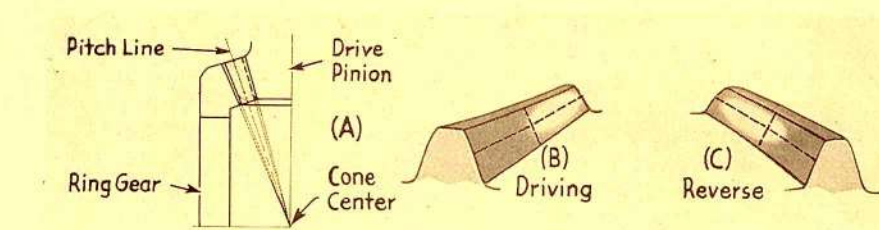

Fig. 2 Correct Ring Gear Tooth Contact
The profile contact may appear at any position throughout the length of the tooth. For proper meshing of gears the greater part of the profile contact on the ring gear should be about the middle of the tooth at the pitch line slightly below the outer edge. Referring to Figure 2 it will be noted that the contact surface for the desired condition extends only slightly below the pitch line and almost to the edge of the tooth. If the contact surface favors a lower position on the flank of the ring gear tooth as shown in Figure 2 (B) the profile contact is too low. If, on the other hand, the contact surface is totally above the pitch line and also shows a decided contact on the top point or face of the tooth, the profile contact is too high.
To correct a low profile or flank contact, move the drive pinion away from the ring gear by increasing the total thickness of the shims. This adjustment will increase the backlash and it may be necessary to move the ring gear toward the drive pinion to keep the backlash within the limits. Changing the position of the ring gear will alter the lengthwise contact on the tooth and to obtain correct tooth contact, illustrated in Figure 2 (A) and (B), several adjustments for lengthwise and profile contact, may be required as explained later.
trated in Figure 2 (A) and (B), several adjustments for lengthwise and profile contact may be required. After obtaining the proper tooth contact under load, check the backlash to see if it is within the limits.